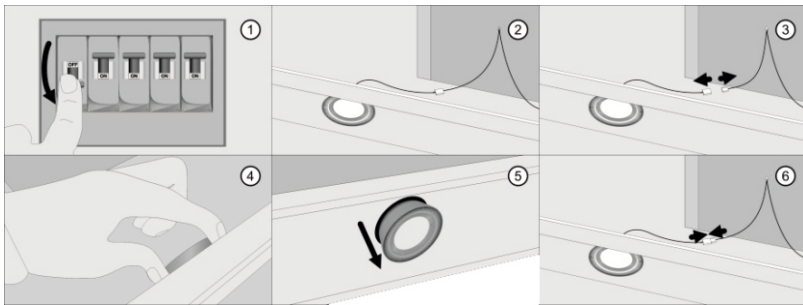

Fig. 15 Light lamps changing
1. Raise the cooker hood glass up and remove aluminum fat filter (Fig. 15. 2)
power supply cable by pressing the latch (Fig. 15. 3)
1. Find two lamp fixing plates inside the cooker hood, press it with fingers and push the lamp down (Fig. 15. 4, 5)
4. Install new lamp of the same type and specifications (12 V, 1.5 W), and consequently connect it to power. (Fig. 15. 6)